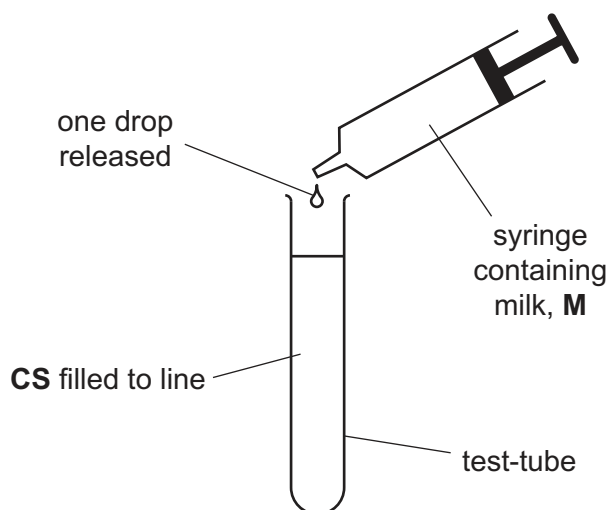

Fig. 1.3
9. Put **one** drop of 90% milk into the test-tube containing **CS**, as shown in Fig. 1.3. Start timing.